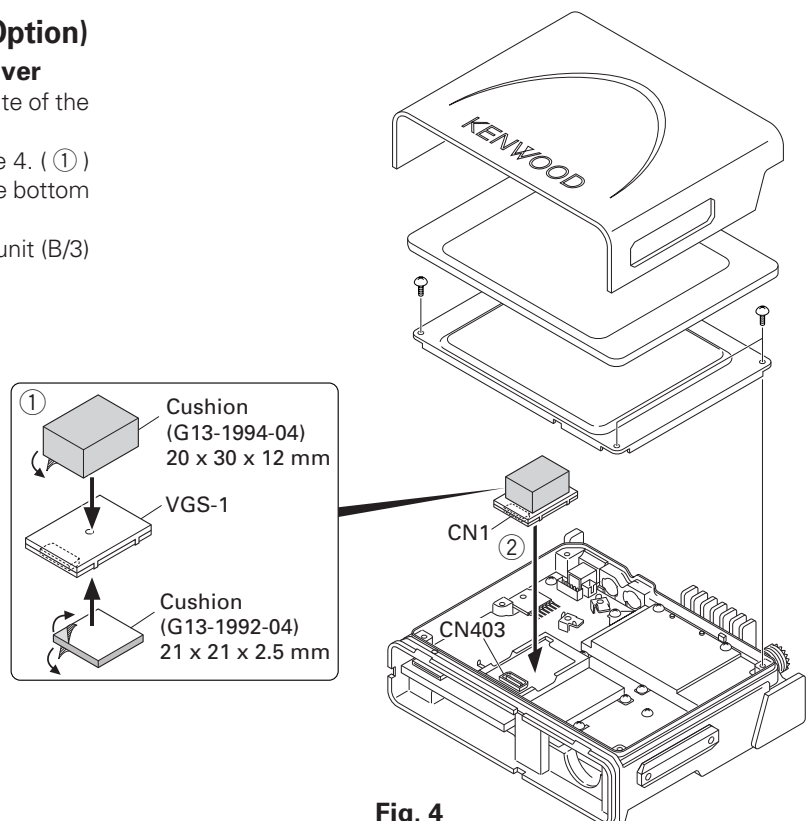

Fig. 4
2. Attach two cushions to VGS-1 as shown in Figure 4. ( ① )
3. Insert the VGS-1 connector (CN1) into the TX-RX unit (B/3) connector (CN403). ( ② )